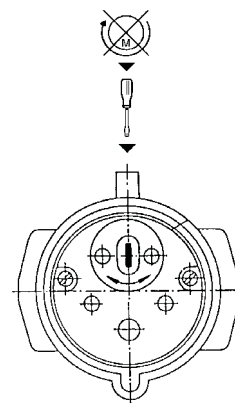

Fig. 3
- In this case, the phase inverter in the CEE plug is to be pressed in with a suitably sized screwdriver and rotated by 180° (Fig. 3).